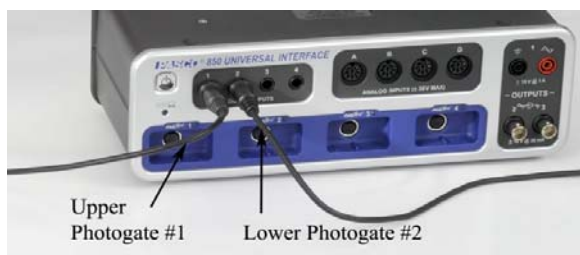

Figure 3: Connecting Photogates to 850
3. The Photogate at the top of the incline MUST be plugged into Digital Input #1, and the Photogate at the bottom of the incline into Digital Input #2 (see Fig.3).